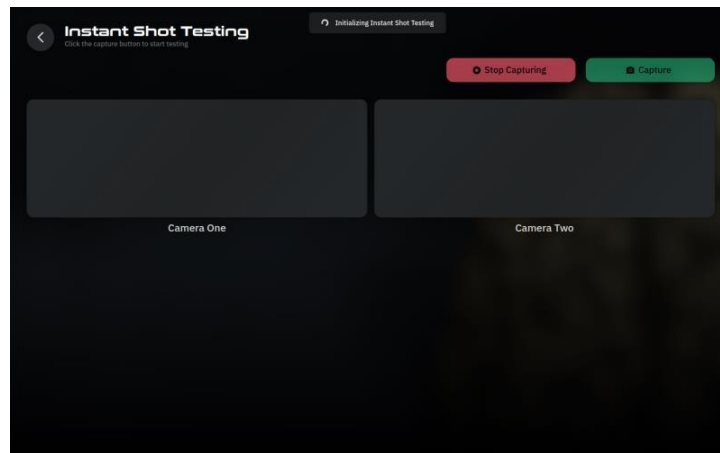

Figure 5.5: Camera test — initializing
1. **Initiating:** A banner on the top of the screen shows the mode is initiating, testing buttons are disabled (Figure 5.5).